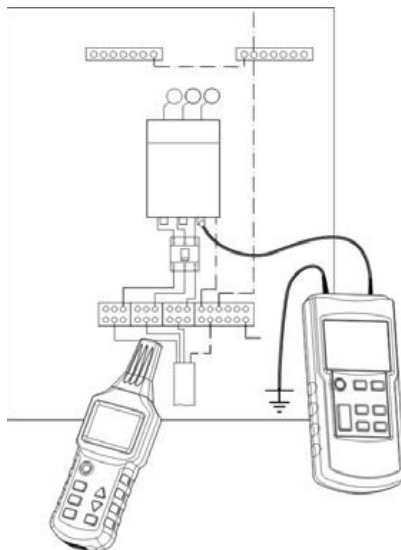

Fig. 16
3. Connect the transmitter as shown in Figure 16.